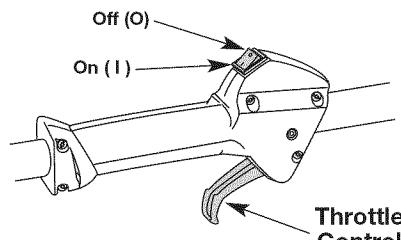

Fig. 13
NOTE: There is no need to turn the unit on. The On/Off Control is in the ON (I) position at all times (Fig. 13).
2. Press and hold the On/Off Control in the OFF (O) position until the engine comes to a complete stop (Fig. 13).